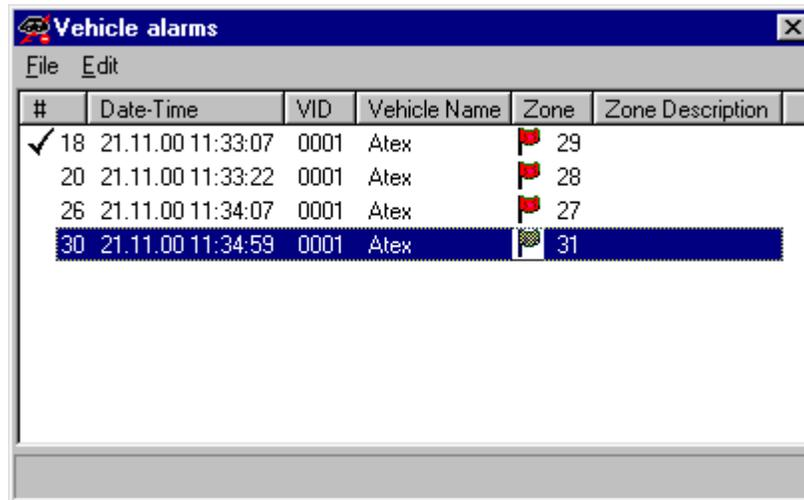

Fig. 51 Vehicle alarms window
- **Alarms** command. Opens the window shown in Fig. 51. All alarms received in the current session of the program operation are displayed and held in this window. The window has a menu, an alarms list, a pop-up list menu and a status bar.
In the first column of the list are marked the alarms acknowledged by operator and displayed is the consecutive alarm number. The date and time of the last message received for a given vehicle zone are displayed in the second column. The third column displays VID. The zone number with a preceding status icon is displayed in the fourth column. Zone description is given in the fifth column. Shown in Fig. 51 are four alarms from a vehicle with 0001 VID. An operator acknowledged the first alarm. The next three alarms have not been restored (there is a red flag before the zone number), and the last alarm is restored (there is a yellow flag before the zone number). The date and time in the line with a restored alarm comply with a zone restoration message.